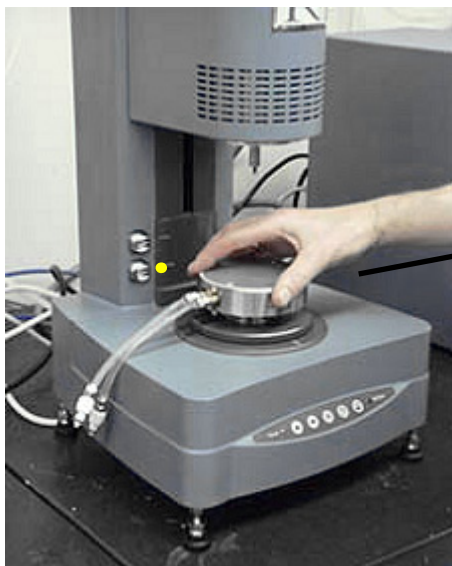

Figure 5.6
2. Fit the attachment as shown in Figure 5.6 below, ensuring it is aligned correctly.